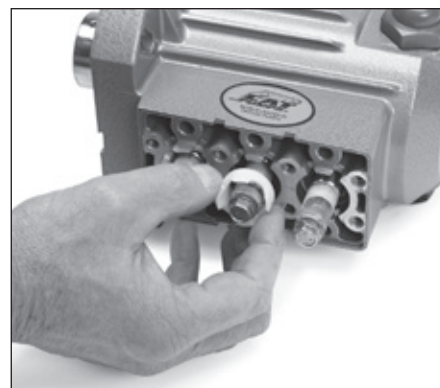

Figure 13
11. On pump series 4SPX, slide white seal retainer with flat end facing the crankcase (See Figure 13).